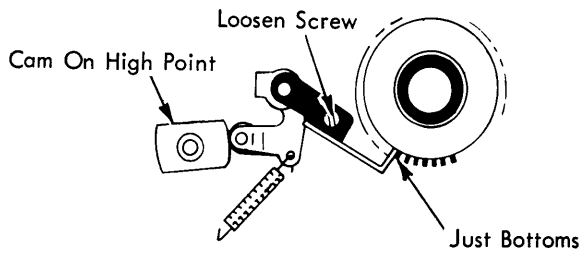

FIGURE 25a. Shift Interlock
- a. **723 and 725** - With the shift interlock on the high point of the cam, adjust the interlock by its adjusting screw so that the tip just bottoms between two teeth on the shift clutch ratchet (Fig. 25a).